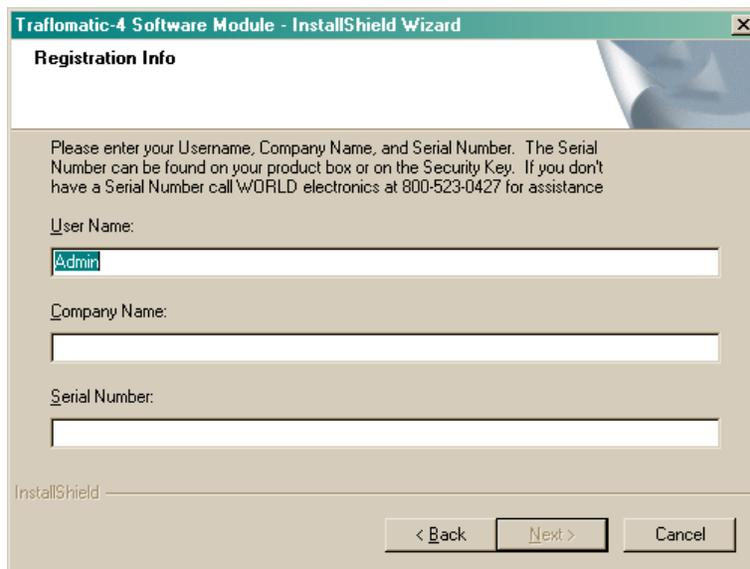

Figure 15
3. After selecting **Next**, a **Registration Info** window will appear as in Figure 15. In this window the user will need to fill in the fields beside **User Name:**, **Company Name:**, and **Serial Number:**. The Serial Number can be obtained from a label located on the Trafromatic-III and IV Module's Security Key. A second location where the serial number can be found is the side of the Trafromatic-III and IV Software Module's Product Box.